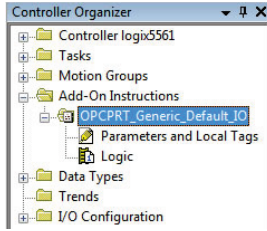

Figure 57: Generic Default IO Add-On Instruction
- 2) Right click on "Add-On Instructions" in the controller organizer view and select "Import Add-On Instruction". Browse and import the generic default I/O add-on instruction. Refer to Figure 57.